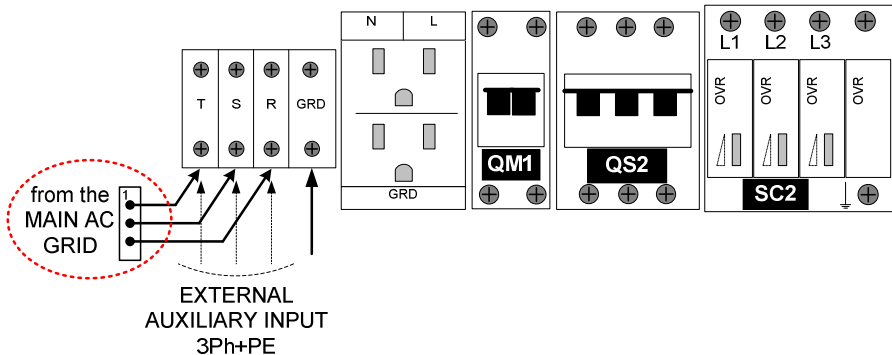

Figure 11-5: Clamps for connecting the auxiliary AC grid and the relative magnetothermic
- Disconnect the connected highlighted in Figure 11-5.
- Connect the cable (3P+T) to the terminal boards indicated in Figure 11-5.
- ➔ Put the QS2 (Figure 11-5) switch at ON: if the auxiliary line turns on, all MODULE-50kW displays, in the inverter, will light up.